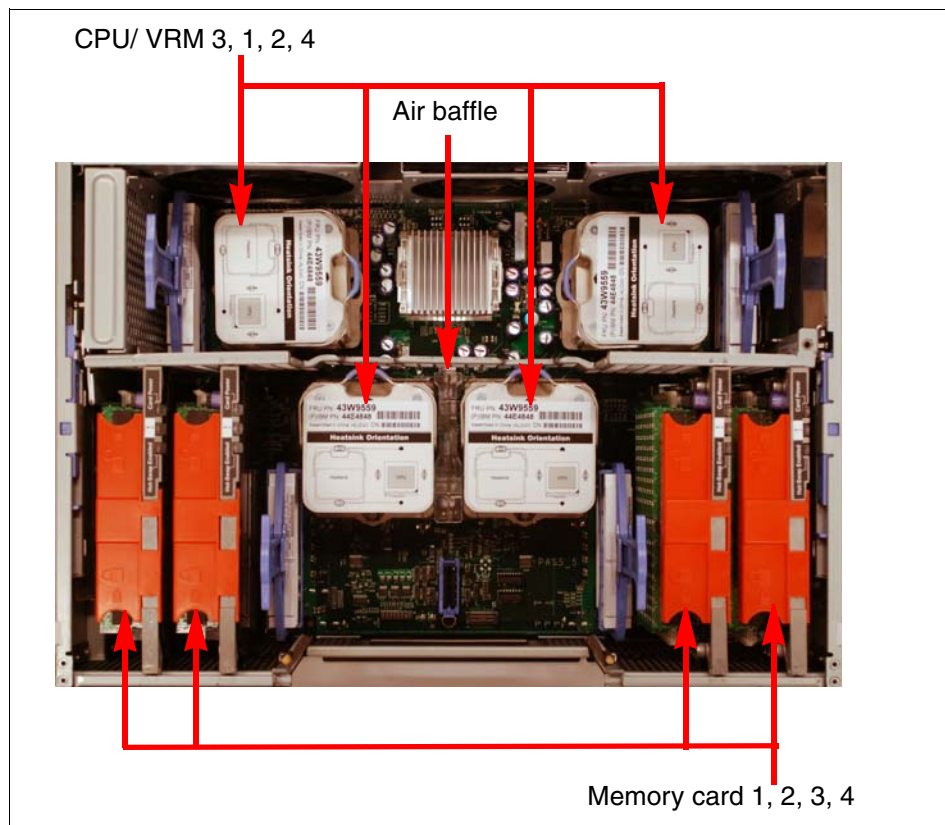

Figure 3-1 Top view of the x3850 M2 and x3950 M2 processor board; order of installation
Figure 3-1 on page 90 shows the locations of the four processors (CPUs), locations of the required voltage regulator modules (VRMs), which you can identify by the blue handles, and the memory cards that we describe later in 3.2, “Memory subsystem” on page 111.
7. Install the processors in the order shown in Figure 3-1 on page 90.
10. Note that the processor air baffle is always located between socket 1 and socket 2, as shown in Figure 3-1 on page 90.
15. Ensure that the air baffle between processors is correctly installed, as shown in Figure 3-1 on page 90.